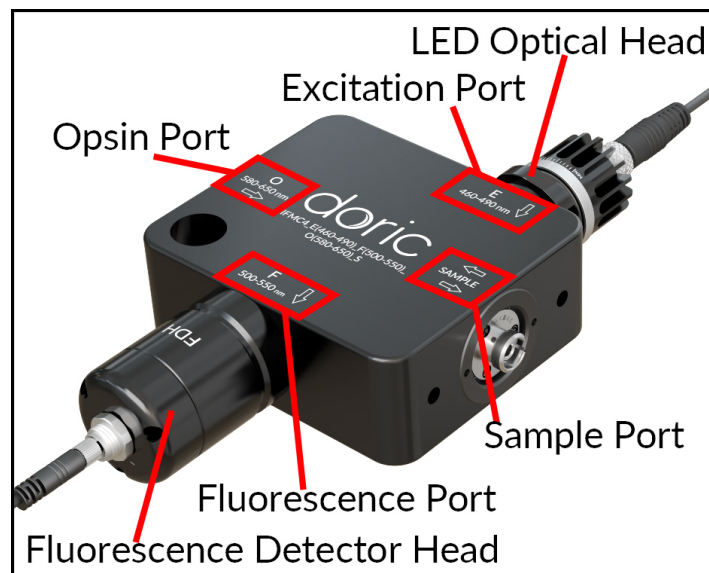

Figure 1.4: 4-port Fluorescence Mini Cube
- **E** and **IE** (Fig. 1.4) represent entry ports for fluorescence and isosbestic point excitation light. Each port of this type comes with a *Built-in LED Optical Head* that contains the following elements.
- **F** (Fig. 1.4) represents ports for fluorescence emission light. Each port of this type comes with a *Built-in Doric Fluorescence Detector Head*.
- **O** (Fig. 1.4) represents optogenetic activation or silencing ports. These are always FC receptacles to allow connection to laser or fluorescence light sources.
- **S** (Fig. 1.4) represents the exit port to the sample. These are always FC receptacles to allow connection to an experimental subject.